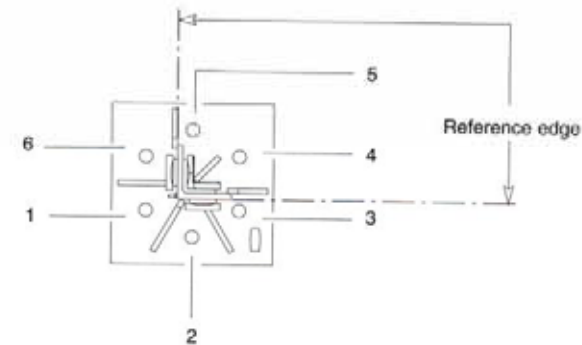

Figure 1
- 4 rods – use the holes 1, 3, 4, 6 (Figure 1)
- 6 rods – use the holes 1, 2, 3, 4, 5, 6 (Figure 1)